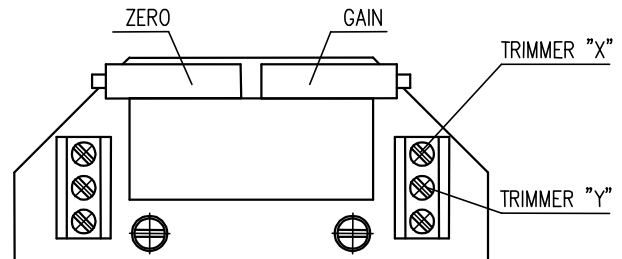

Fig. 7
1.2.1. EPV – 3-wire version (Fig. 7,7a)
- Adjust the resistive transmitter according to the previous chapter. The resistance is to be metered on the terminals X-Y (Fig. 7,7a). The used transmitter resistance is 2000Ω or 100 Ω.